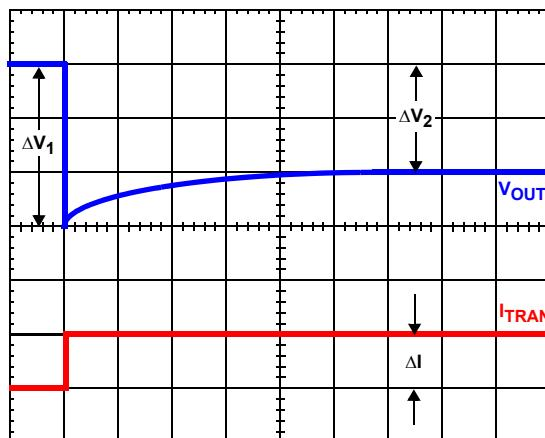

FIGURE 19. TIME CONSTANT MISMATCH BEHAVIOR
Due to errors in the inductance or DCR it may be necessary to adjust the value of R_{COMP} to match the time constants correctly. The effects of time constant mismatch can be seen in the form of droop overshoot or undershoot during the initial load transient spike, as shown in Figure 19. Follow the steps below to ensure the R-C and inductor L /DCR time constants are matched accurately.
2. Record ΔV_1 and ΔV_2 as shown in Figure 19.